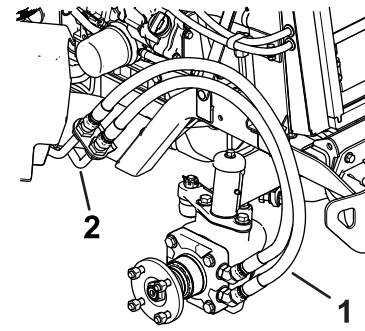
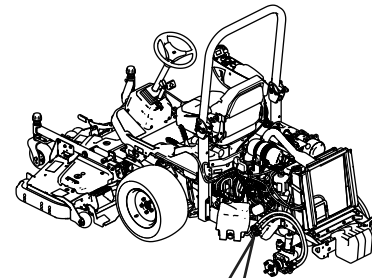

Figure 9
Figure 10
1. Remove the existing hydraulic hoses from the hydraulic lines in front of the wheel and immediately install the caps to the hydraulic lines (Figure 9 and Figure 10).